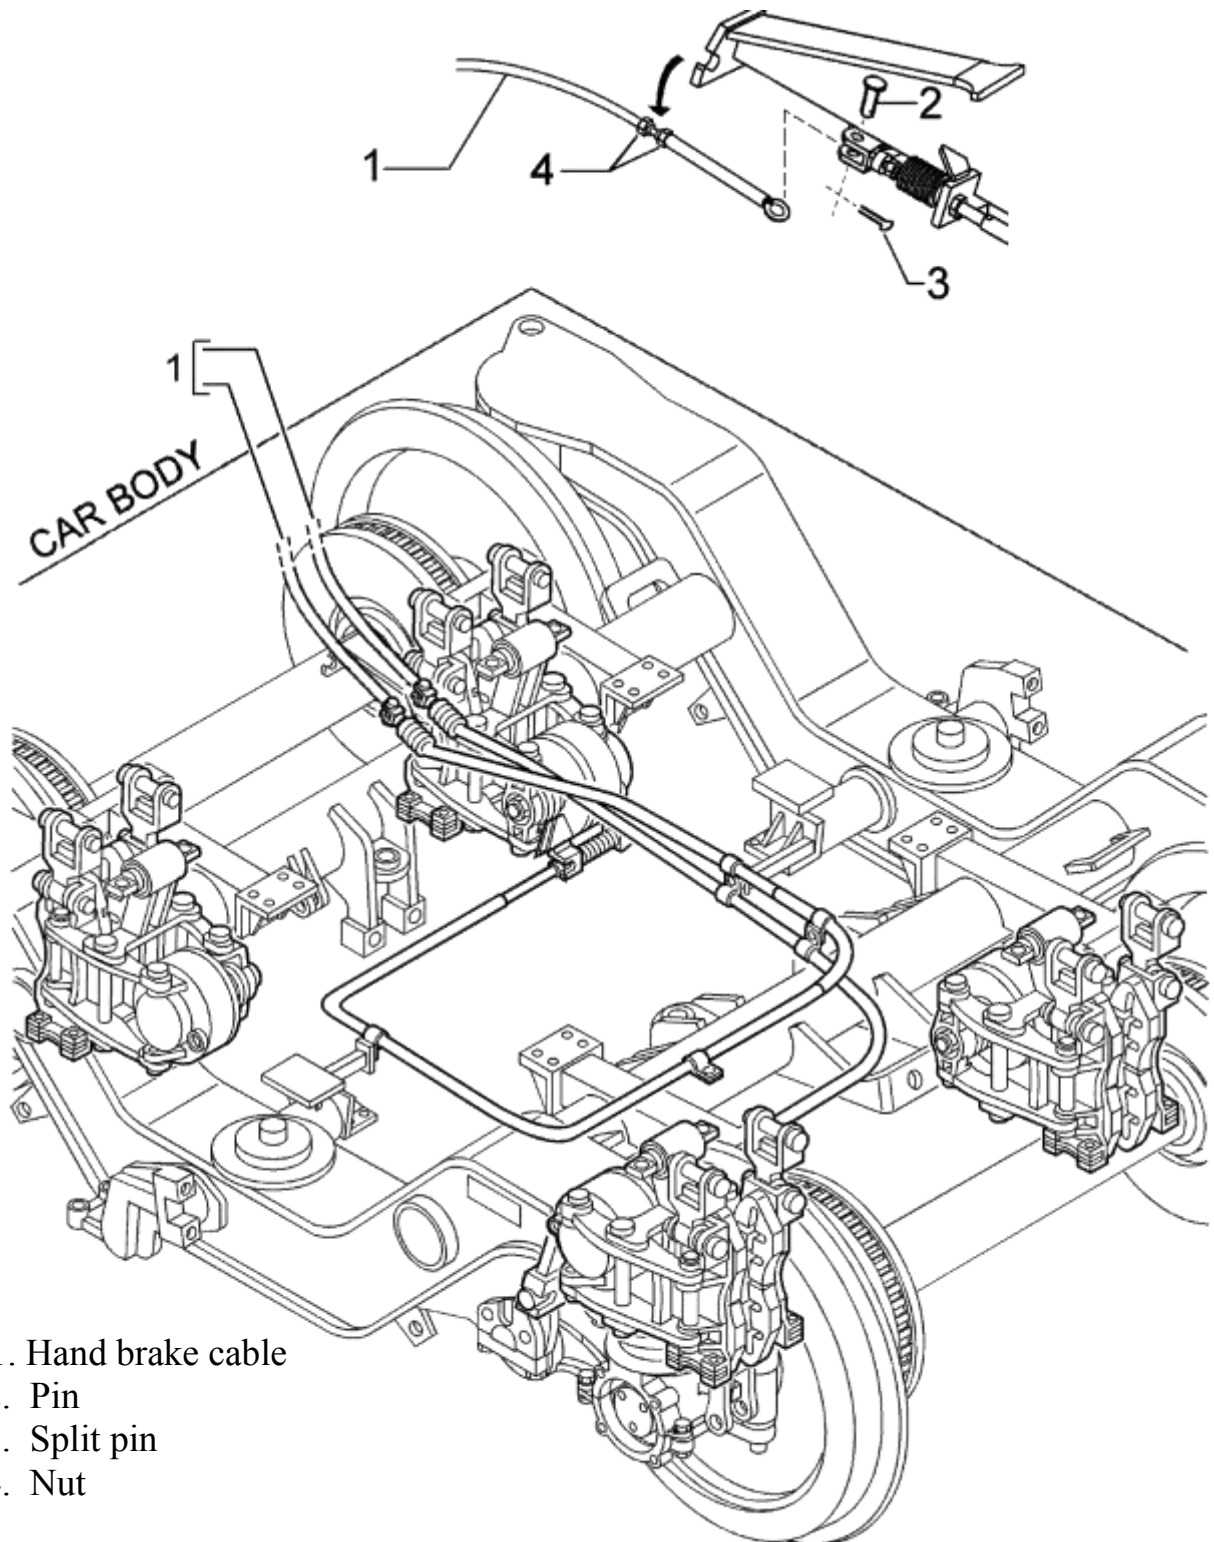

FIG. 4-14 Disconnections of Hand Break Cables
When working on bogie 1267334 it is necessary to disconnect the hand brake cables (1-FIG. 4-14 -after releasing the hand brakes): extract the split pin (3) and the pin (2), then untighten the nuts (4) and remove the cables (1) from the frame support.